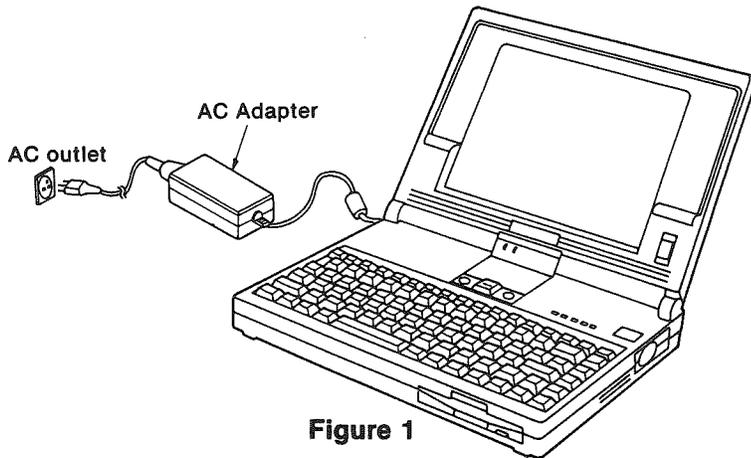

Figure 1
- Connections should be made as shown in Figure 1.